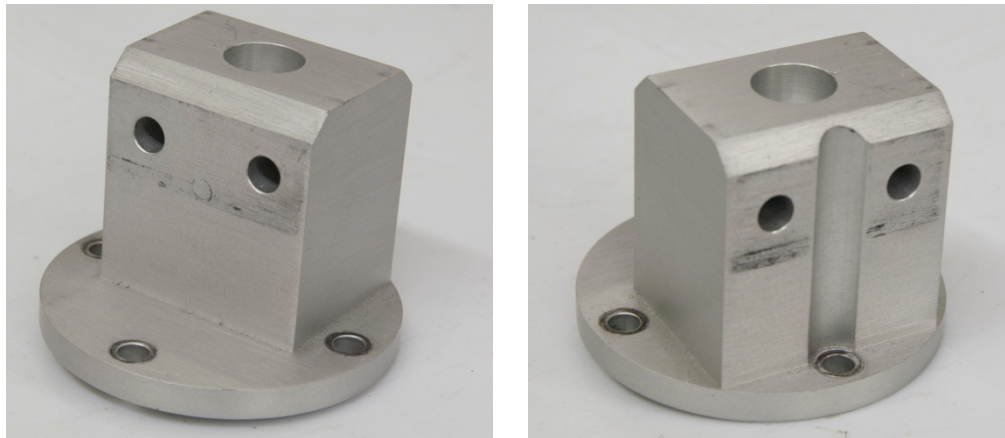

Figure 154. Lumbar interface
- Attach the lumbar interface to the headform using four M5 x 12 SHCS (Figure 154).